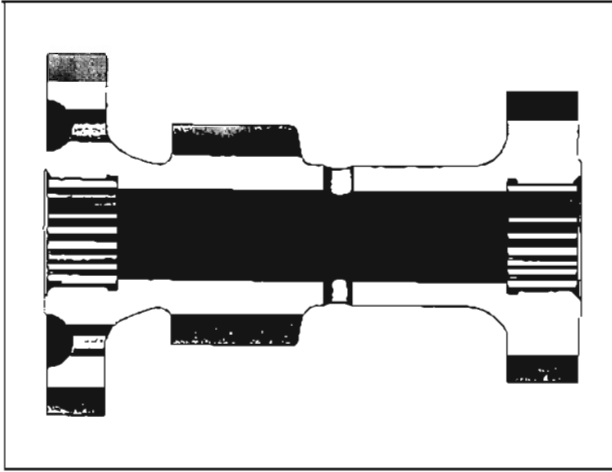

Fig. 7-121 Countergear and Rollers
1. Place some cup grease in the roller bearing area of each end of the counter gear and install the 25 rollers in each end. The grease will hold the rollers in place while installing. (Fig. 7-121)